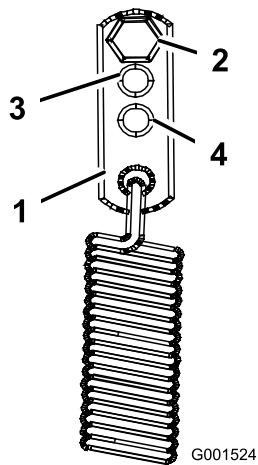

Figure 44
3. For a heavier drive setting, relocate the spring anchor links to either the medium or heavy duty positions (Figure 44). The spring anchor links are attached to the upper rear corner of the hydro drive shields on the left and right sides of the machine.
The parking brake lever is on the right side of the machine (Figure 44). If the parking brake does not hold securely, adjust it.